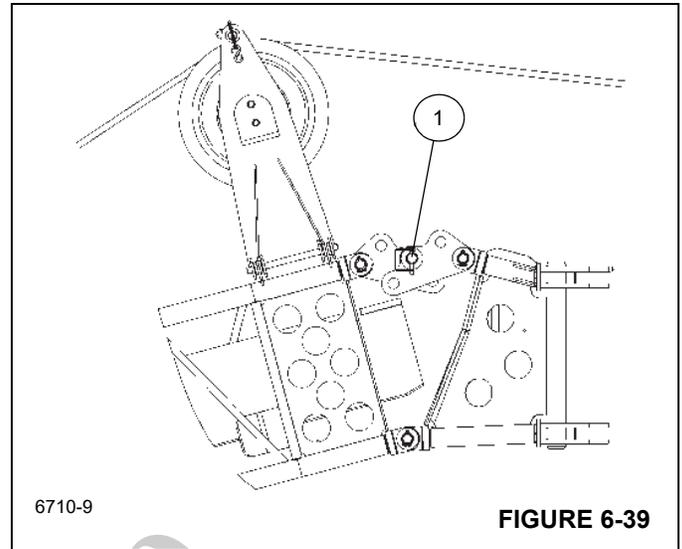

FIGURE 6-39
3. Slowly elevate and telescope the boom at the same time until the center holes (1), (Figure 6-39) align and two washers, offset pin and lock pin can be installed.